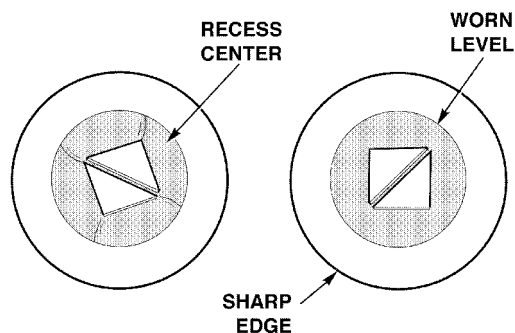

Figure 5.
- (1) Large ends of rollers worn flush to the recess, or the radii at the large ends of the rollers worn sharp. Refer to Figure 5.